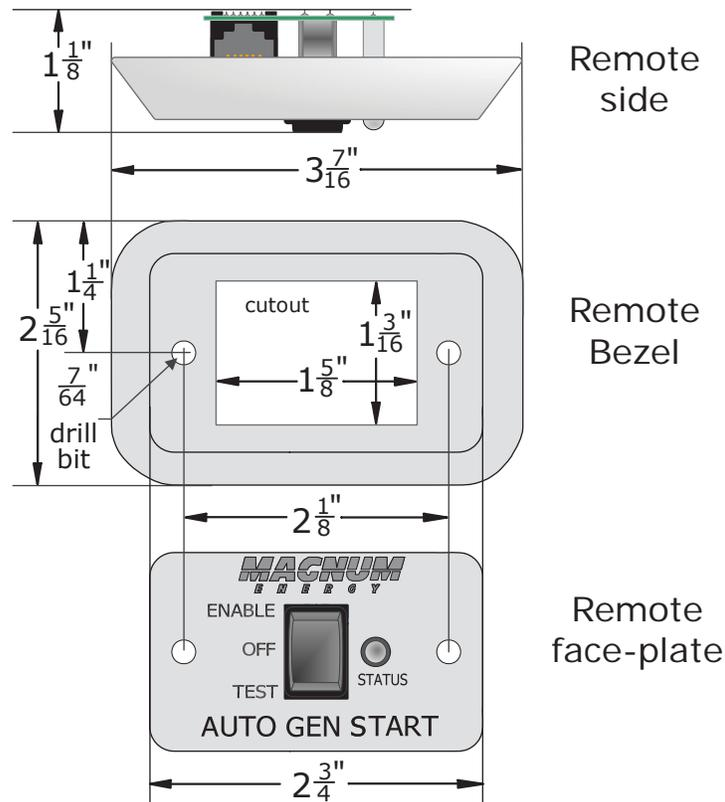

Figure 2-3, Remote Dimensions
2. Cut a hole for the switch. See Figure 2-3 for switch and cutout dimensions.